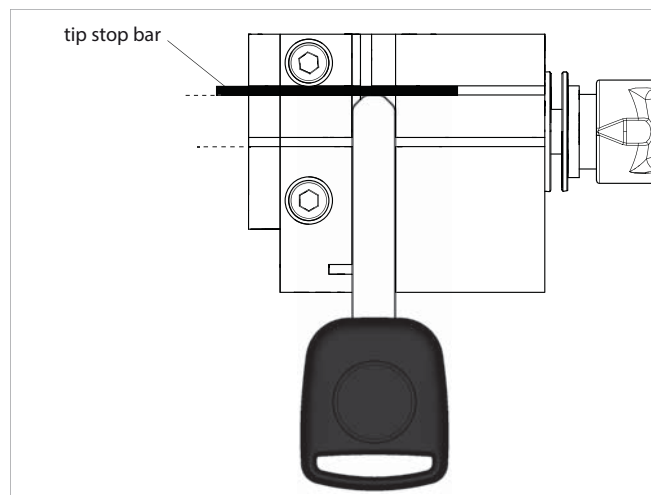

Fig. 22
- 2) Place the original key into the left-hand clamp of the machine making sure that the key tip is pressed against the stop bar (Fig. 22) and lock it.